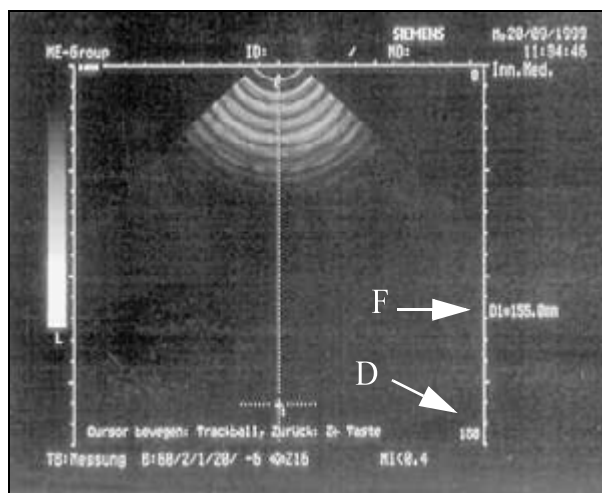

Fig. 73: Target test 2
- Use the track ball to move to the center of the crosshair. A value according to the table must appear in the display (F/Fig. 73 / p. 69) as a function of the probe.